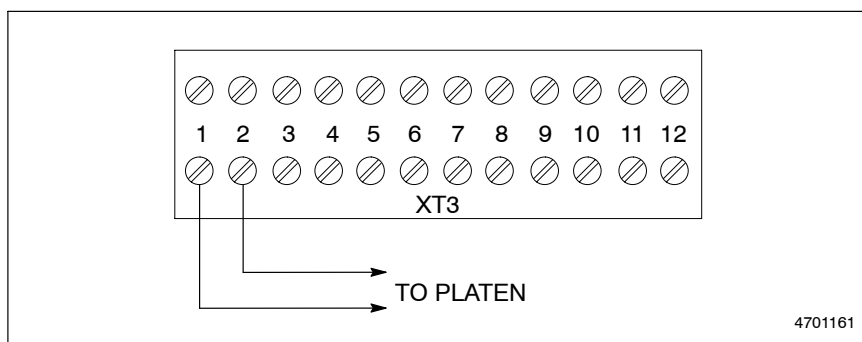

Fig. 7-9 Platen RTD Wire Connections
4. See Figure 7-9. Disconnect platen RTD wires 58B and 59B from positions 1 and 2 at terminal block XT3.